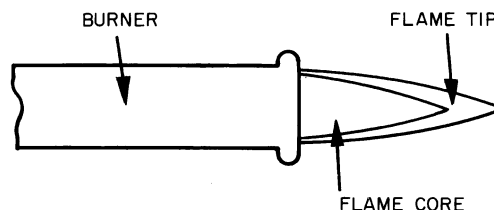

Fig. 5 — Proper Flame Appearance
5. Observe unit heating operation, and watch the burner flame core to see if it is bright blue. If you observe a suspected malfunction, or if the burner flame cores are not bright blue, call your dealer. See Fig. 5.